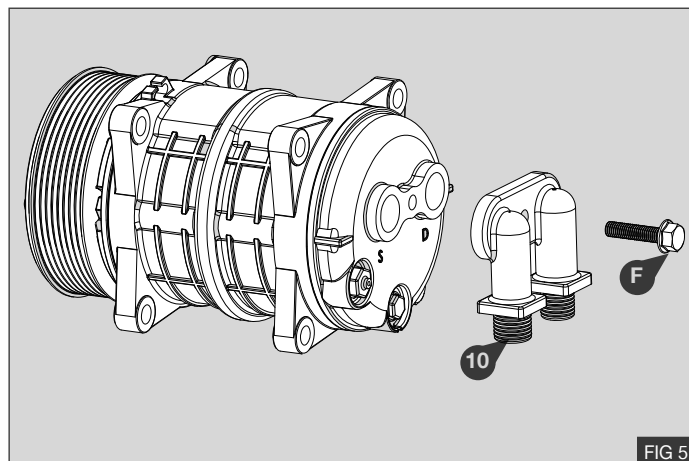

FIG 5
1. Install the inverted manifold 10 to the compressor using original bolt (F) - Fig 5.